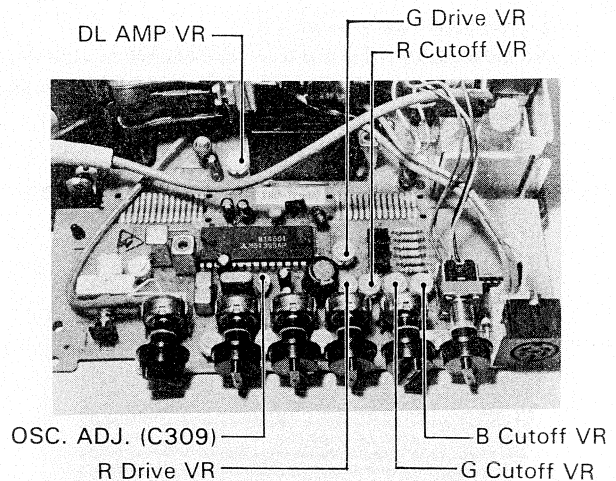

Fig. 2-3
- 2) Turn the red and blue cutoff VRs fully clockwise and the green cutoff VR fully counter-clockwise. Adjust the screen VR for an easily seen image. (See Fig. 2-3).
- 3) Turn the red, blue and green cutoff VRs (R704, R705, R706) and the screen VR fully counter-clockwise to eliminate luminance. (see Fig. 2-3).